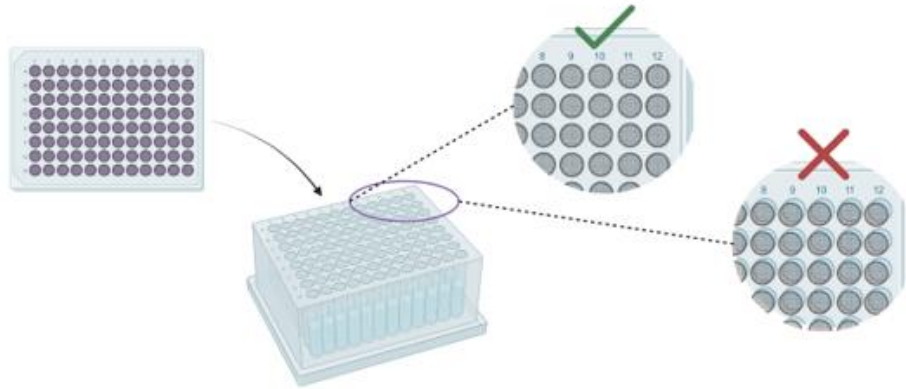

Figure 5: The tops of the strainer and the well openings line up to avoid sample loss.
24. **When prompted**, apply a Plate Strainer to a new 1 mL 96 deep well plate by peeling off the backing, carefully aligning over the wells A1-A12, and placing on the surface of the plate. Place this plate on the Deepwell Plate Cooling Adapter on Deck A with A1 towards the bottom left (Figure 5).